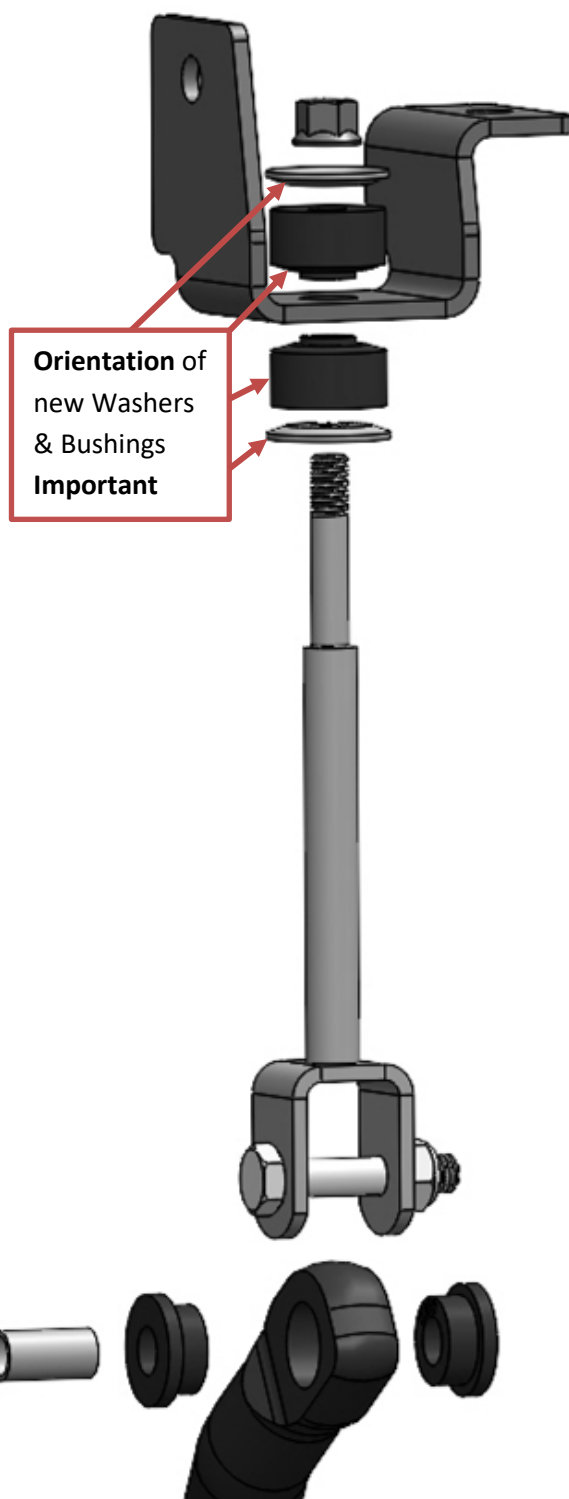

Figure 2 – New Nolatothane Bushing Arrangement.
3. With the top bracket in place, apply supplied grease to the new sway bar link spigot, then install the **new bushings and washers** with reference to the **orientation** shown in Figure 2.
4. Once the top is completed, Install the new bushings and crush tube to the sway bar (see Figure 2). Apply the grease supplied to the bore of the bush and the outside of the crush tube. Also, lightly coat the ends of the bushings. **Important note:**